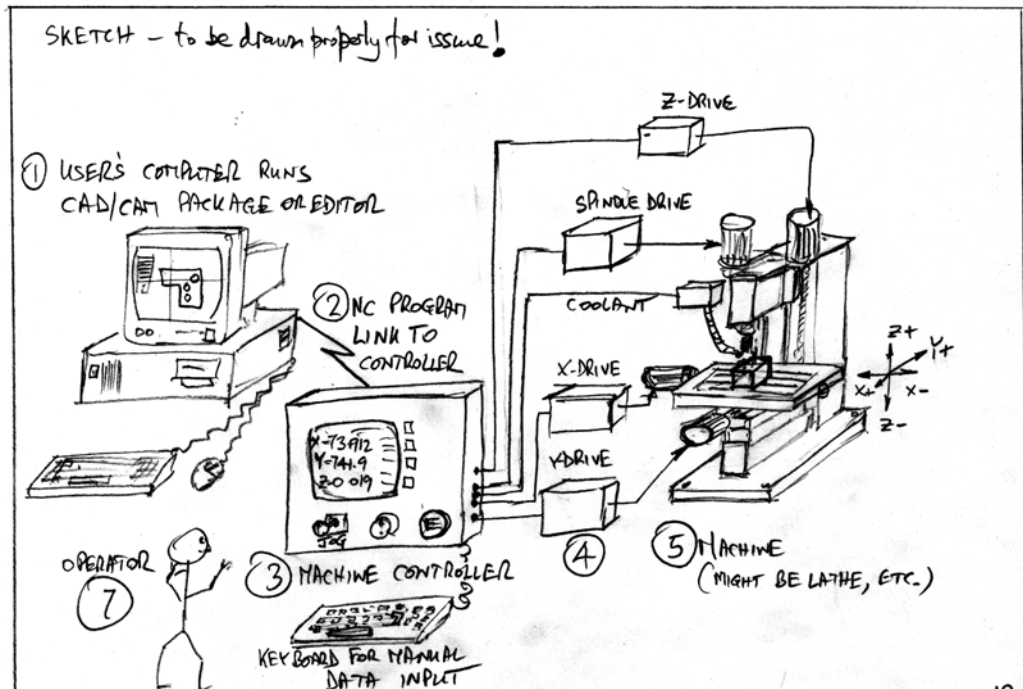

Figure 1.1 - Typical NC machining system - **DIAGRAM TO BE REDRAFTED BEFORE ISSUE!!**
The main parts of a system for numerically controlled milling are shown in figure 1.1
Mach2 is a software package which runs on a PC and turns it into a very powerful and economical Machine Controller to replace (3) in figure 1.1.
To run Mach2 you need Windows XP (or Windows 2000) ideally running on a 1GHz processor with a 1024 x 768 pixel resolution screen. A desktop machine will give much better performance than most laptops and be considerably cheaper. You can, of course use this computer for any other functions in the workshop (such as (1) in figure 1.1 - running a CAD/CAM package) when it is not controlling your machine.